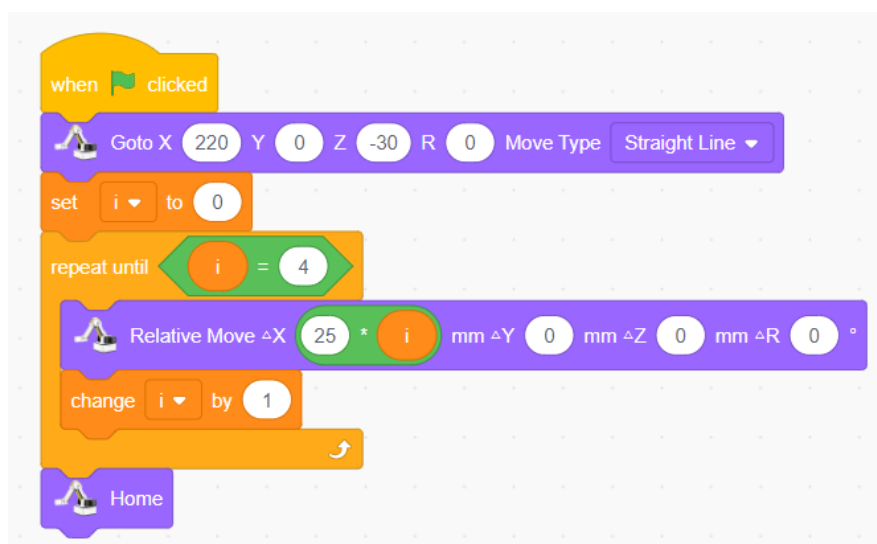

Figure 2.19 Process integration
Step 9: Integrate the process. Put the "repeat until" block under the "Set (i) to 0" block, drag the "Home" block, and put it after the "repeat until" block. Integrate the program of the robot arm moving forward 4 times is shown in Figure 2.19.